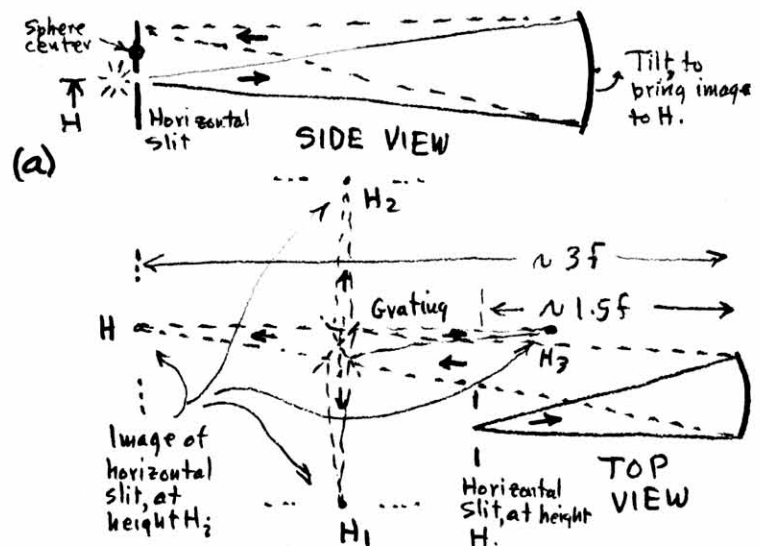

Fig. 2(a) Autocollimation step in side view. (b) Use of adjustment (2) to generate horizontal beam for testing grating tilts.
1. Height of curved mirrors. First we one of the slits  $90^\circ$  until it is horizontal, not vertical, and we recheck it to height  $H$ , rather carefully. Now we fill it with light and illuminate one of the mirrors, adjusting the mirror to autocollimate an image of this slit back onto the screen, as shown in the side view by Fig. 2 (a). Tilt the curved mirror as shown to bring the slit image into coincidence with the slit, both at height  $H$ . Repeat for the other mirror. In both cases measure the sphere-radius  $R$ , not particularly carefully. This completes step (1).
2. Now we use step (1) as a tool in step (2) and (3). By bringing the mirror in to about  $3/4 R$  (i.e. 1.5 times  $f$ ) we get a magnification of about 2 and a real image of the slit at about  $3f$  or  $3/2 R$ . To see it, you have to have the mirror enough off the axis that the return beam misses the slit housing as shown from above in Fig. 2 (b). Now we can inject this beam into the grating face turned first  $+45^\circ$  later  $-45^\circ$  from the beam and measure the sharply-focused slit images at some heights  $H_1$  and  $H_2$ . If  $H_1 \neq H_2$ , tilt the rotation axis of the grating until  $H_1 = H_2$ . Then turn the grating face to about  $0^\circ$  and find the slit image at  $H_3 \neq (H_1 = H_2)$ ; tip the rotation axis